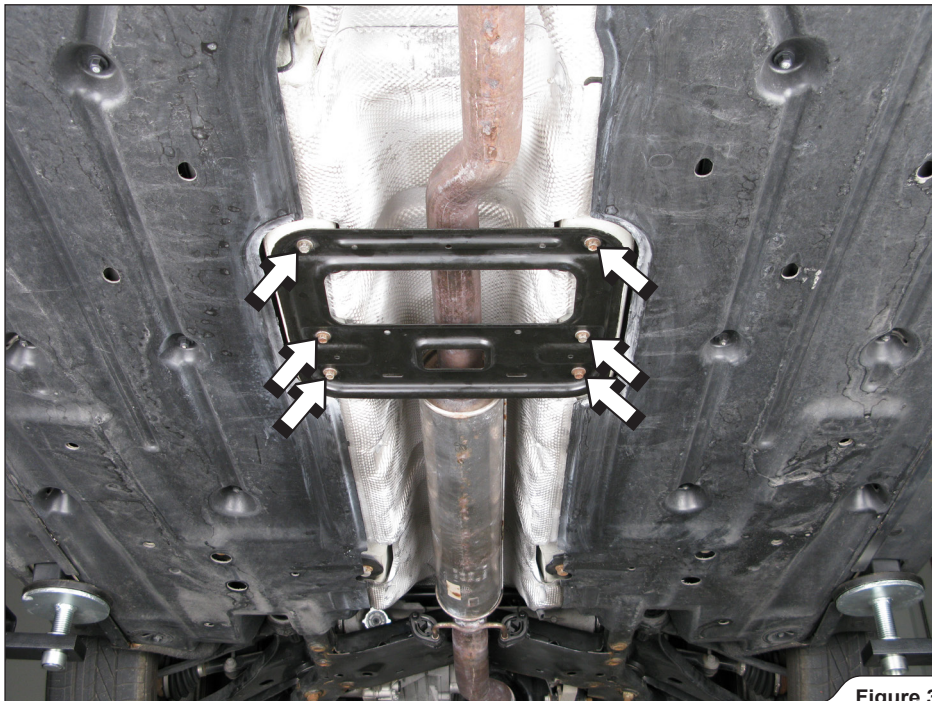

Figure 3
3. **For Evolution and Optional Down Pipe:** unscrew the marked bolts and remove the reinforcement plate off the vehicle (**Figure 3**).